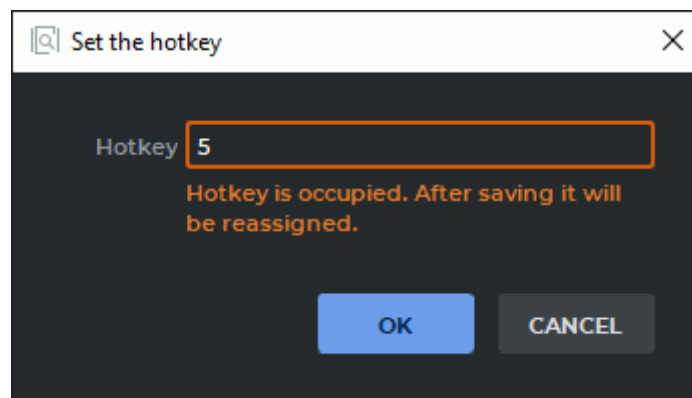

Figure 2.25: Setting up a hotkey
4. In the **Set the hotkey** dialog box that pops up (Fig. 2.25), provide a value in the **Hotkey** field. The permissible values are: